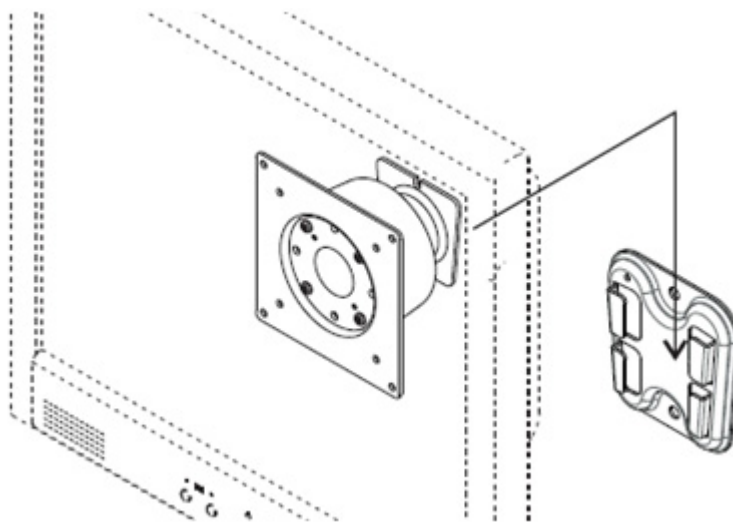

Figure 2.24
- Secure the panel PC by fastening the retention screw of the wall-mounting bracket. (Figure 2.24)
2. Put the machine into the cabinet and take out eight Hook Brackets from the accessory box. (See Figure 2.24)